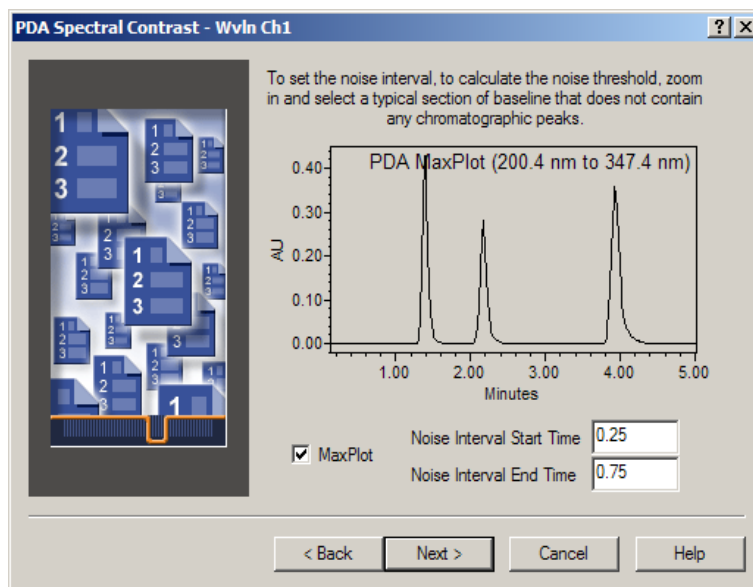

Figure 4-24 PDA Spectral Contrast Page
12. For the question “Do you wish to perform peak purity testing on all peaks?”, click **No**. For the question “Do you wish to match spectra against PDA library spectra?”, click **Yes**. Click **Next** to go to the PDA Spectral Contrast page (Figure 4-24).